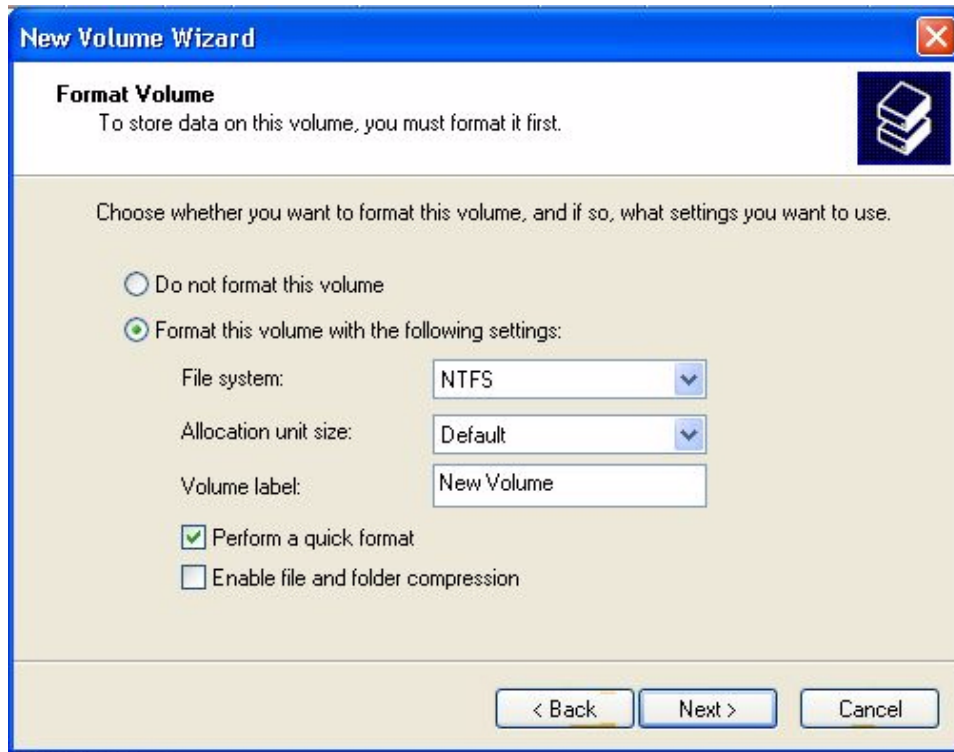

FIGURE 6-26. New Volume Wizard - Format Volume Screen.
4. The *New Volume Wizard - Volume Format* screen appears. As desired, change the “Volume label”. Make sure the “Perform a quick format” checkbox is checked. Click **NEXT >**. See Figure 6-26.